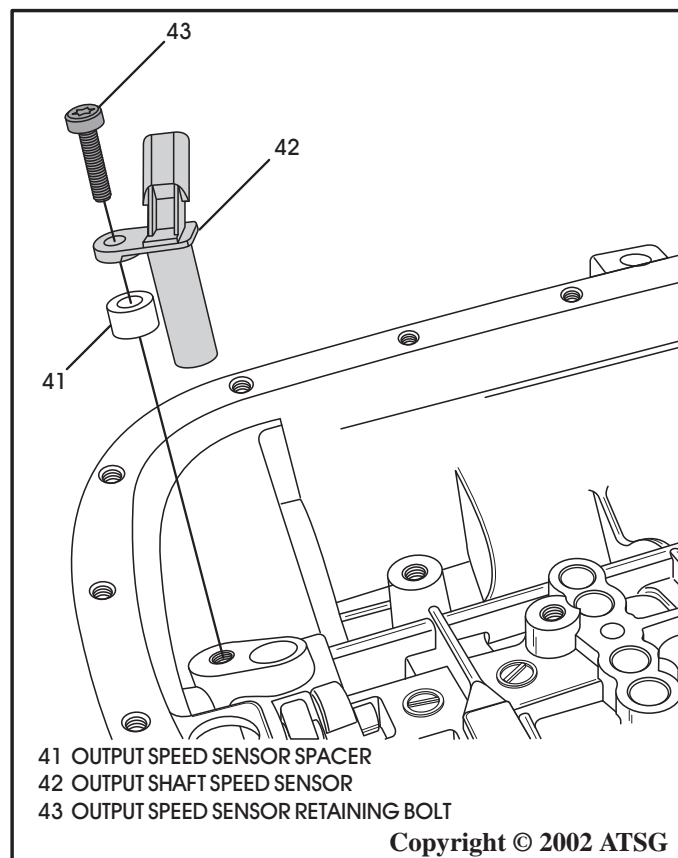

Figure 198
3. Install the output shaft speed sensor, as shown in Figure 198.